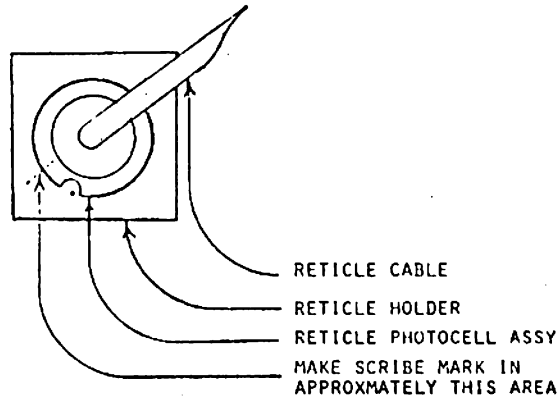

FIGURE 1
- 14.0 Remove the hex head screw (from beneath the drive) that holds the positioner transducer mounting strip closest to the spindle (See Figure 1).